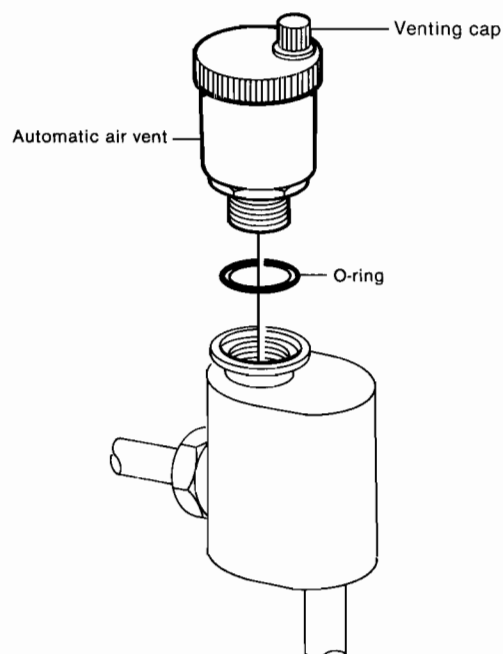

Fig. 41
- d) Re-assemble in reverse order ensuring the "O" ring is fitted (fig. 41) and that the venting cap is loose. Replace pump ensuring that the arrow indicating flow points upwards.